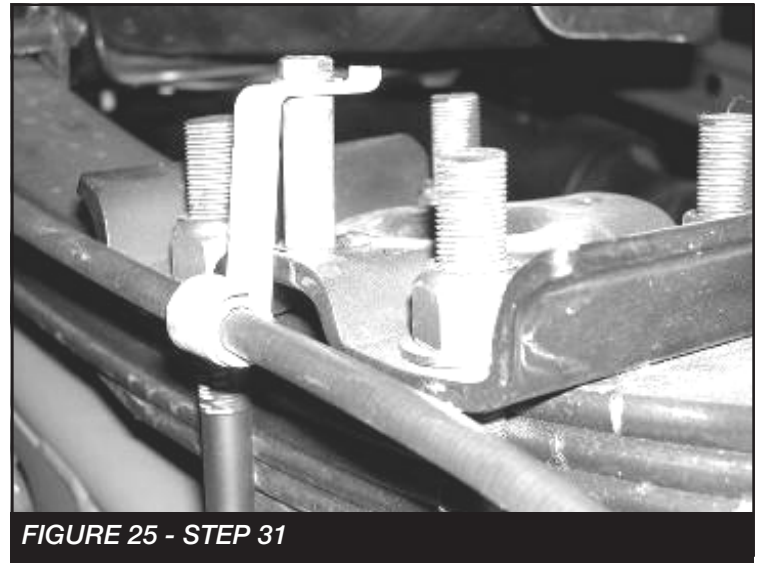

FIGURE 25 - STEP 31
31. **IF EQUIPPED:** Locate FT30166 E-Brake Cable Sleeve and attach between the spring perch and E-brake Cable bracket using the supplied 5/16"-18 x 2" bolt and split washer. **SEE FIGURE 25**